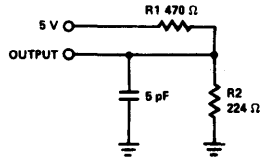

Figure 1b
5. Transition is measured at steady state HIGH level - 500 mV or steady state LOW level + 500 mV on the output from 1.5V level on the input with load shown in *Figure 1b*.